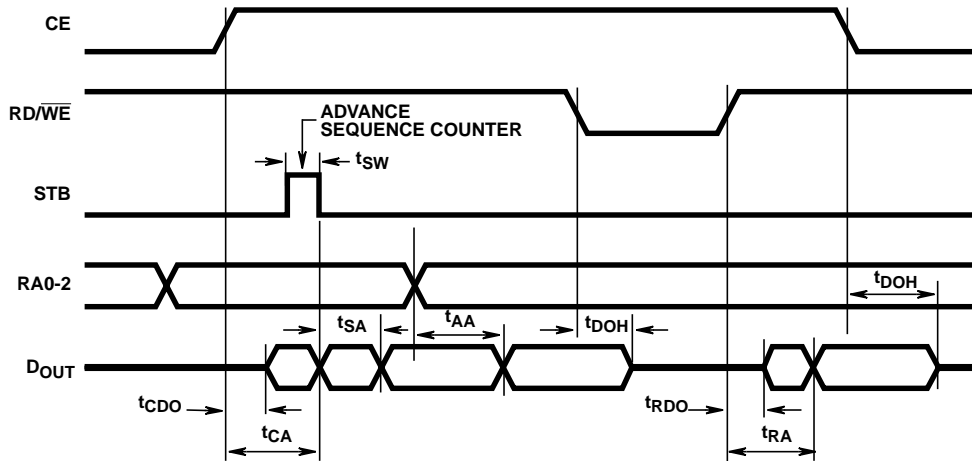

FIGURE 9. READ TIMING DIAGRAM
**Dynamic Electrical Specifications** At  $T_A = -40$  to  $+85^\circ\text{C}$ ,  $V_{DD} \pm 5\%$ ,  $t_R, t_F = 20\text{ns}$ ,  $V_{IH} = 0.7V_{DD}$ ,  $V_{IL} = 0.3V_{DD}$ ,  $C_L = 100\text{pF}$  (See Figure 9)
**Dynamic Electrical Specifications** At  $T_A = -40$  to  $+85^\circ\text{C}$ ,  $V_{DD} \pm 5\%$ ,  $t_R, t_F = 20\text{ns}$ ,  $V_{IH} = 0.7V_{DD}$ ,  $V_{IL} = 0.3V_{DD}$ ,  $C_L = 100\text{pF}$  (See Figure 9) **(Continued)**